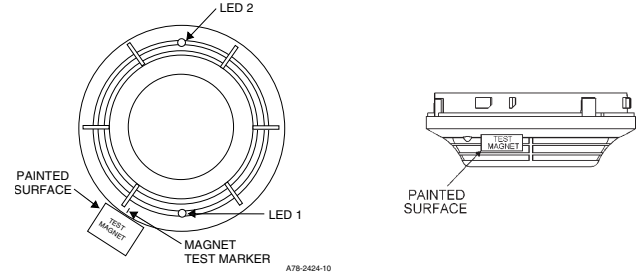

Figure 3. Test Magnet Positioning
4. See Figure 3. Test the sensor by positioning a test magnet (M02-04) against the sensor plastic in the magnet test area. The alarm level should be recognized at the panel and the LED controlled by communication command from the panel.
1. Test the sensor by positioning the optional test magnet against the sensor plastic in the magnet test area, as shown in Figure 3.